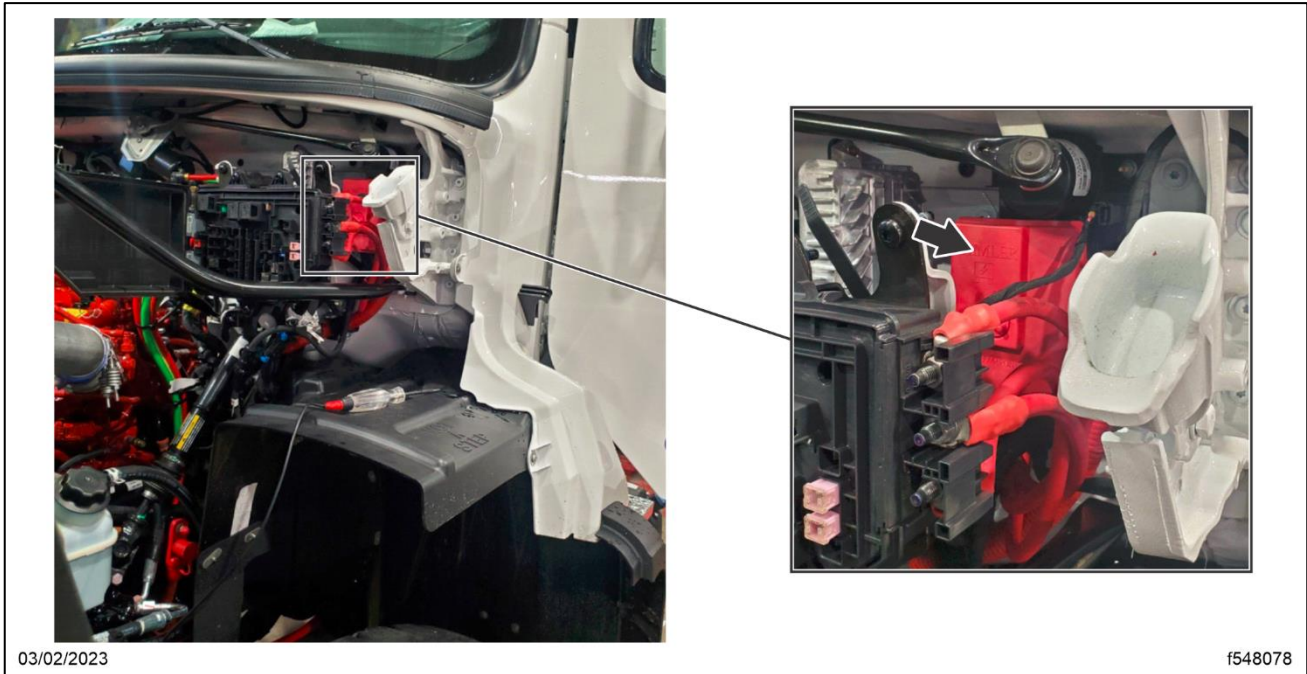

Fig. 4, BCA Fuse Location
- 5.1. Locate the BCA fuses on the driver's side of the engine bay. See Fig. 4.